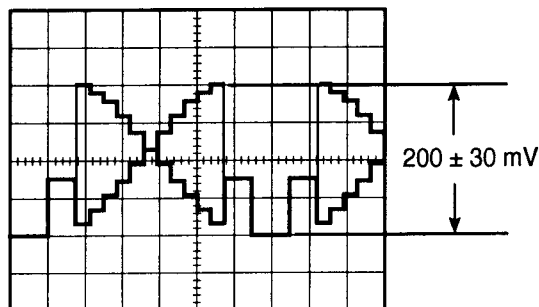

Fig. 5-19
- Set the Lens Iris so that the signal level at the pin 1 of CN2 becomes 200 ± 30 mV as shown in Fig. 5-19.